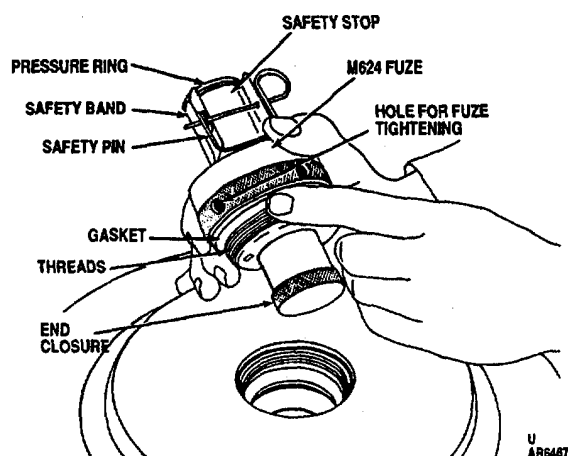

Figure 2-34. Safety pin and M624 fuze greasing.
- (12) Coat fuze threads and gasket with silicone grease G-697 or equivalent prior to removing end closure (fig. 2-34). Obtain grease from supply (Appendix D).